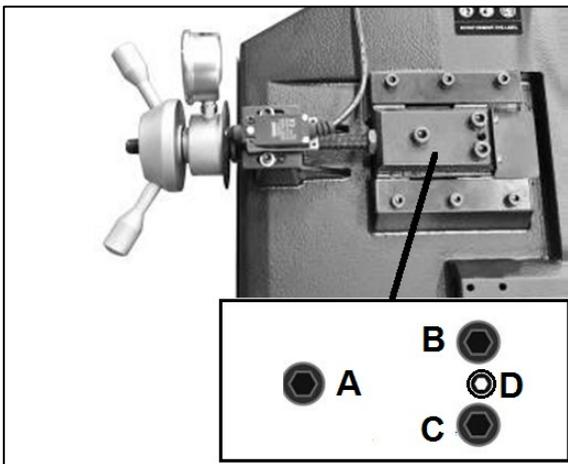

Figure 8-6: Blade Tracking Adjustment
- Loosen the hex socket screws (A, B, C, Fig 8-6)